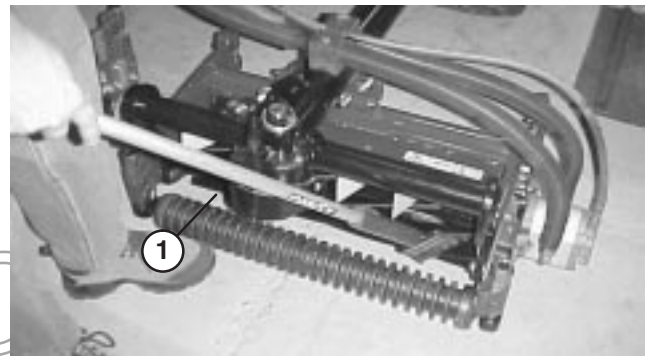

Figure 70
8. Apply lapping compound with a long handle brush (Toro Part No. 29-9100). Never use a short handled brush (Fig. 70).